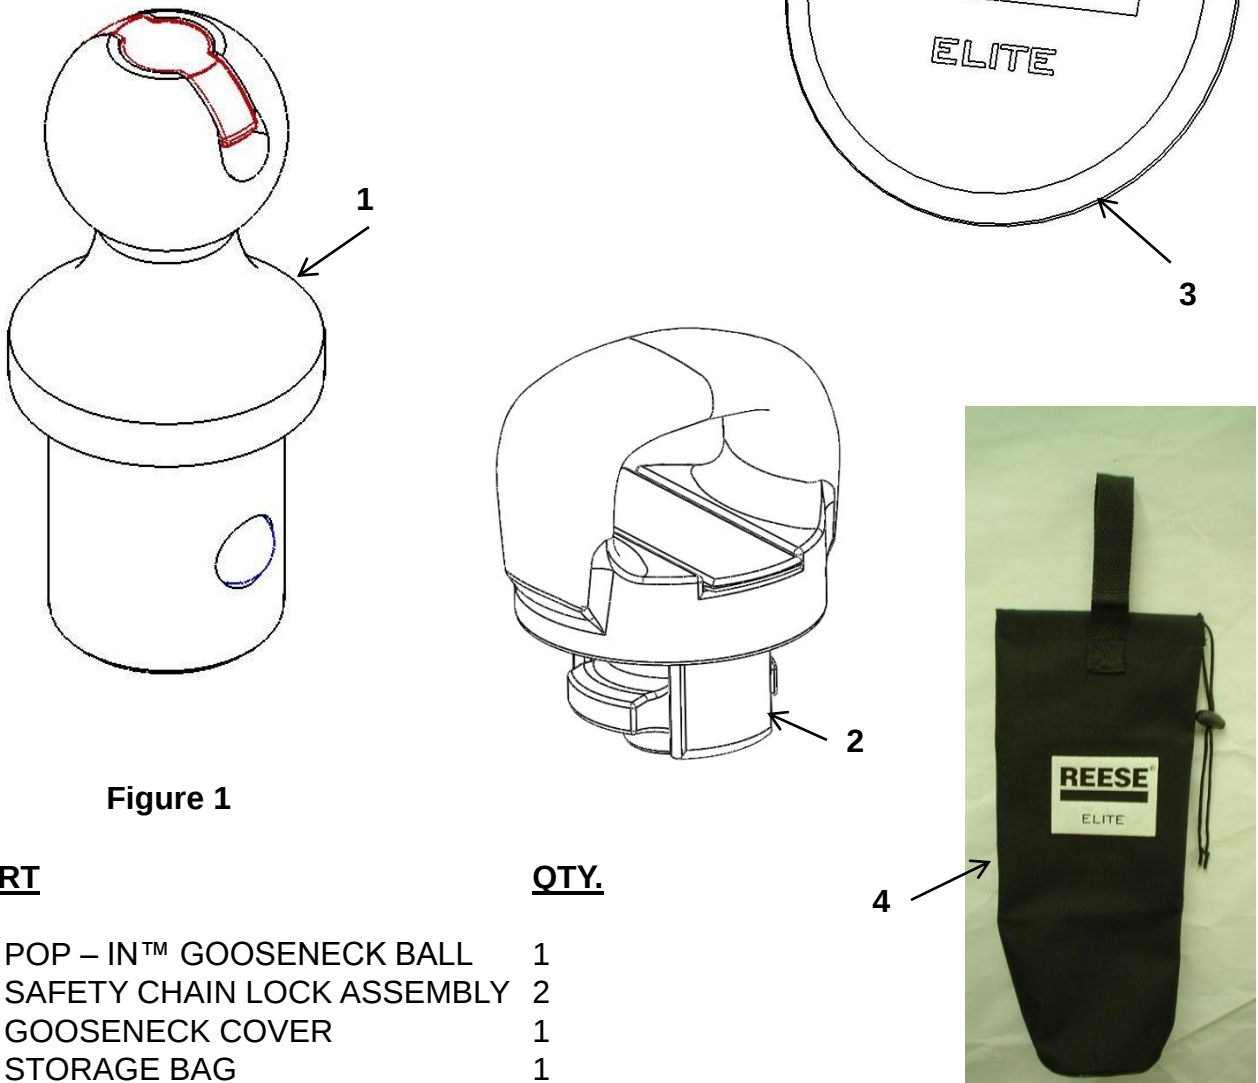

Figure 1
1. Check all the boxes for all the components listed in **Figure 1** and become familiar with component terminology.